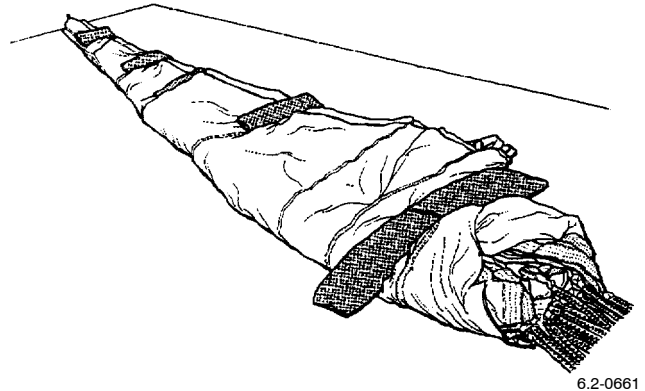

Figure 11. Canopy Folded, Shot Bags Positioned
r. Fold the RH canopy gores progressively from the skirt to the apex inboard to cover the central seam and then similarly fold the LH group on top of the RH group, aligning the LH gores with the RH outer edge and position shot bags to retain the folds (Figure 11). (QA)